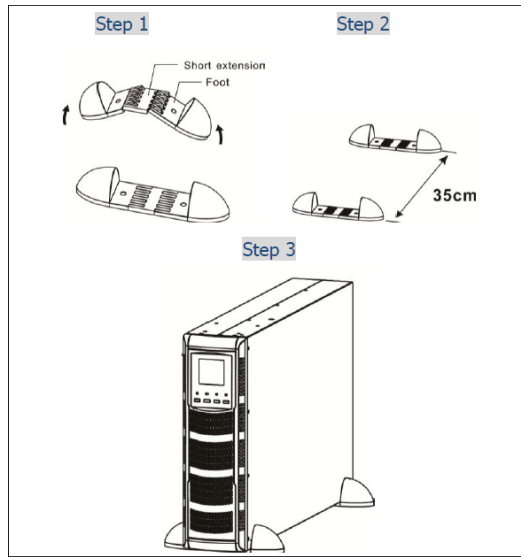

Figure 1
A. Install Stand-a-lone. Refer to Figure 1.